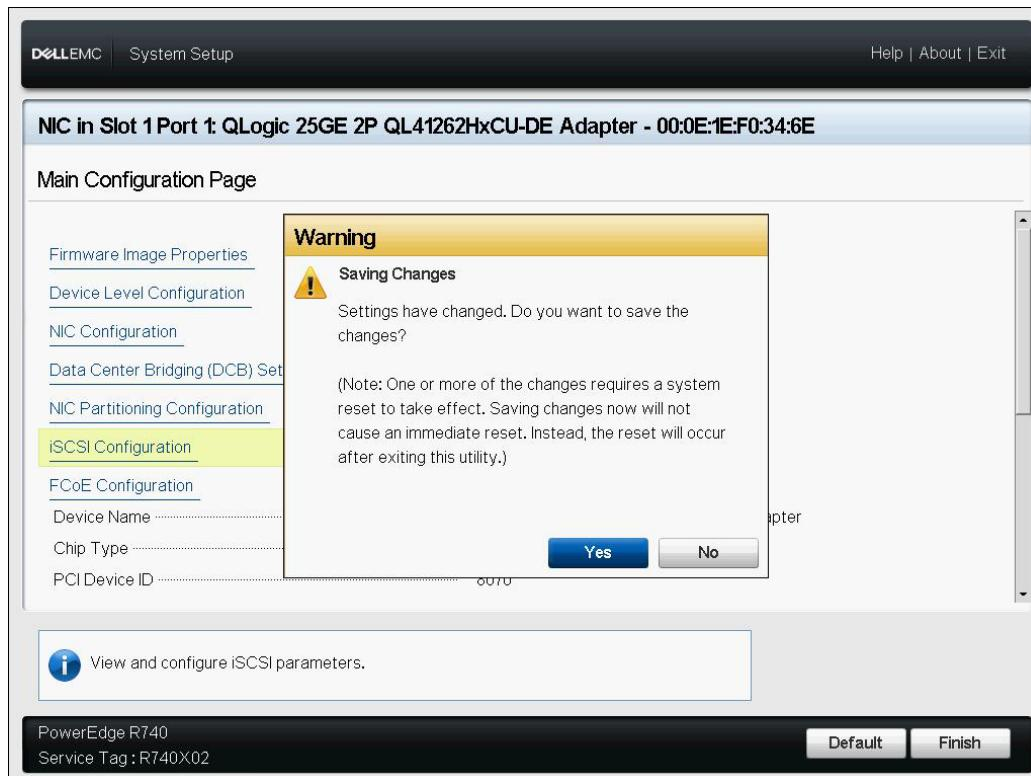

Figure 9-14. System Setup: Saving iSCSI Changes
14. Click **Yes** to save changes, or follow the OEM guidelines to save the device-level configuration. For example, click **Yes** to confirm setting change (Figure 9-14).